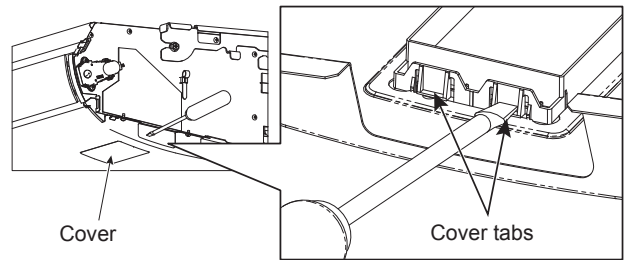

Fig. 8-2
- (2) Insert a flat-head screwdriver from the side, and remove the cover while pressing down on the two cover tabs. (Fig. 8-2)